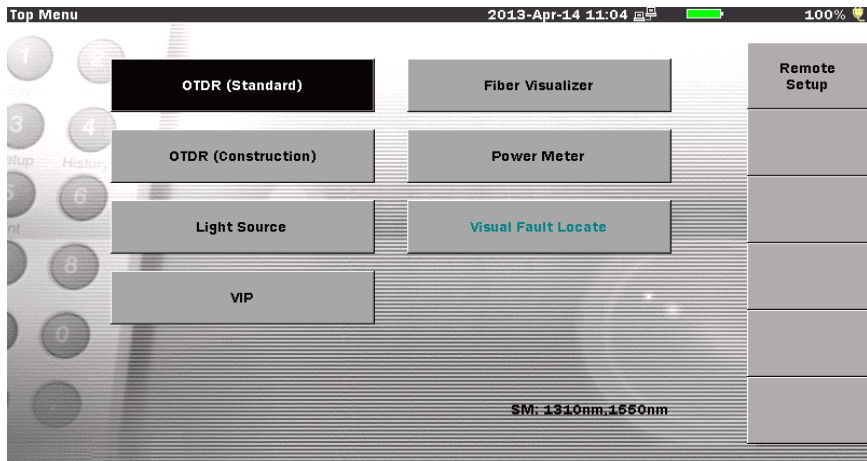

Figure 1-2: Top Menu screen
3. When the self-test is complete, the unit proceeds to the Top Menu screen (see Figure 1-2).